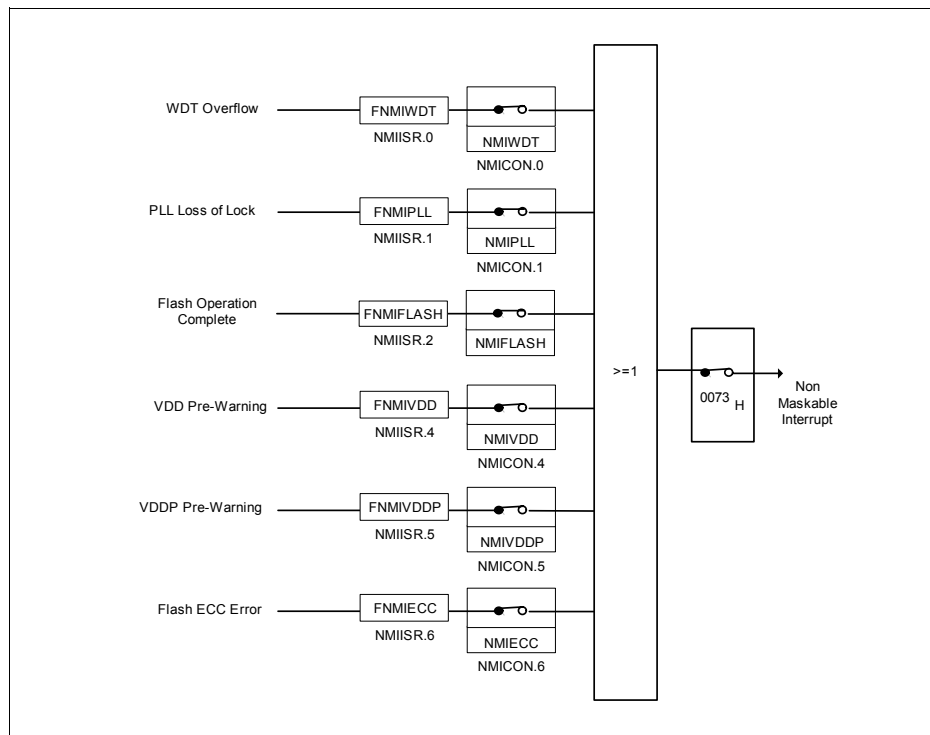
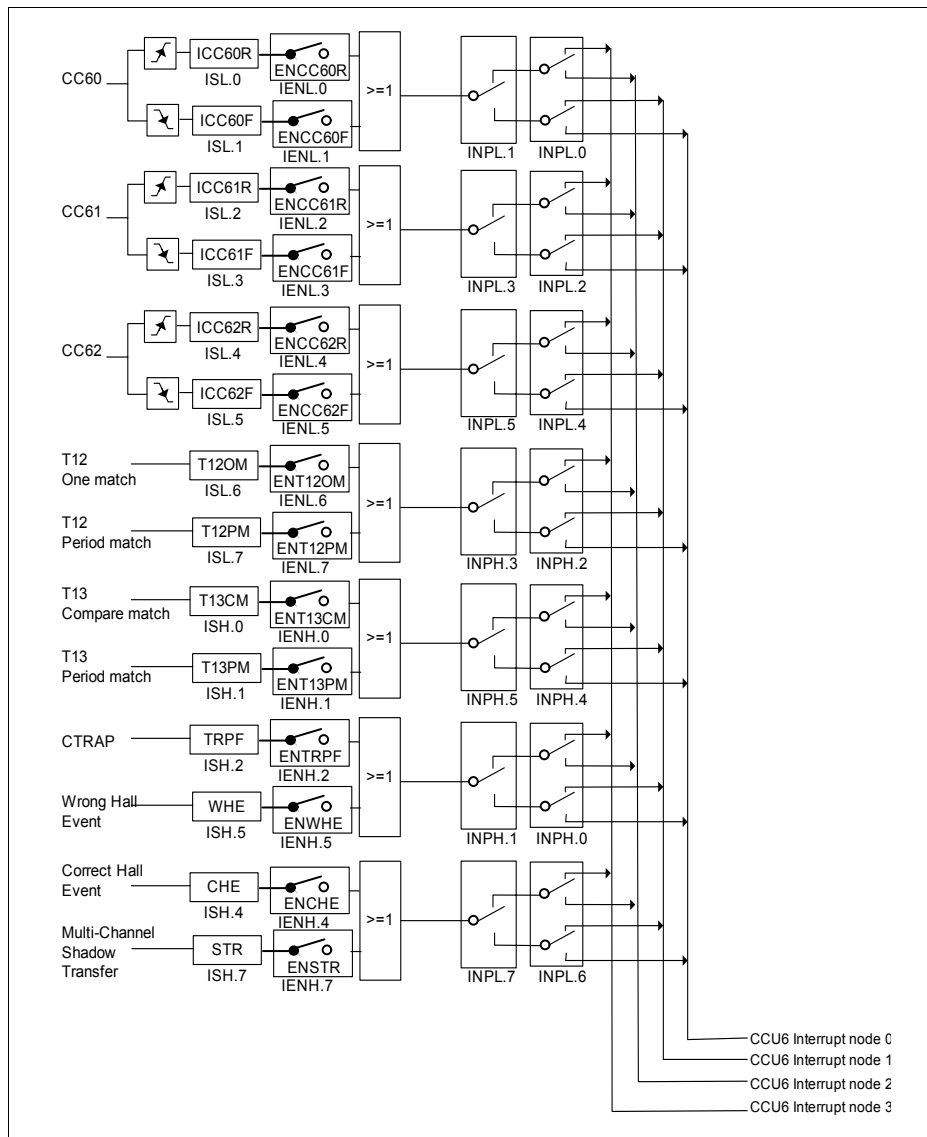

**Figure 13 Non-Maskable Interrupt Request Sources**
**Figure 17** Interrupt Request Sources (Part 4)
**Figure 13** to **Figure 17** give a general overview of the interrupt sources and illustrates the request and control flags.